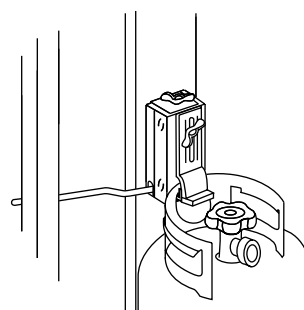

Figure 6
- b) Loosen the tank lock wing nut. Swing the tank lock down. Tighten the wing nut. Figure 6.